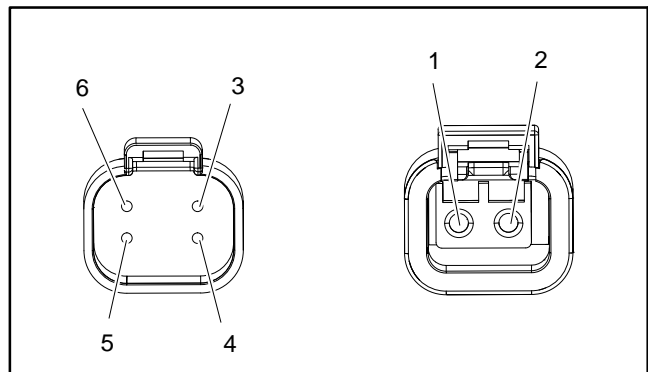

Figure 86
5. Using a multimeter, measure resistance between 48 VDC ground terminal (black wire) in the 2 wire connector and location ID terminal (blue wire) in 4 wire connector (Fig. 86). Resistance should be approximately **18.8 K-ohms**.